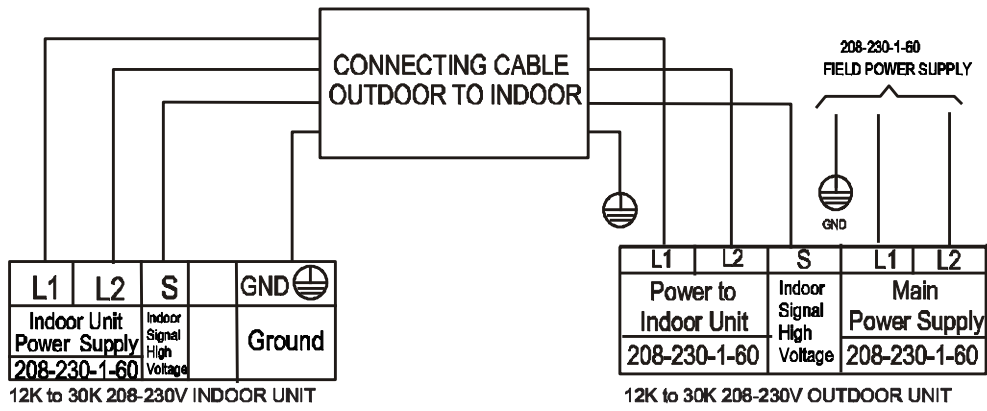

Fig. 35 – Connection Diagrams (Sizes 9–24)
2. Connect wiring from the outdoor unit per the connection diagram (see Fig. 35).